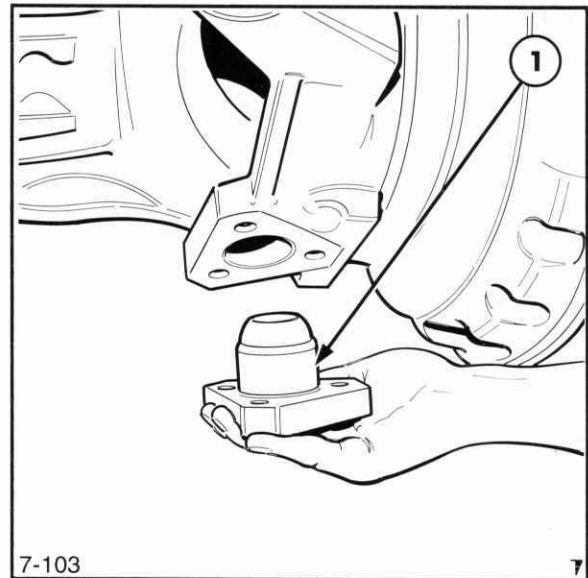

Figure 7-102
2. Refit swivel pin and attaching bolts, Figure 7-102.